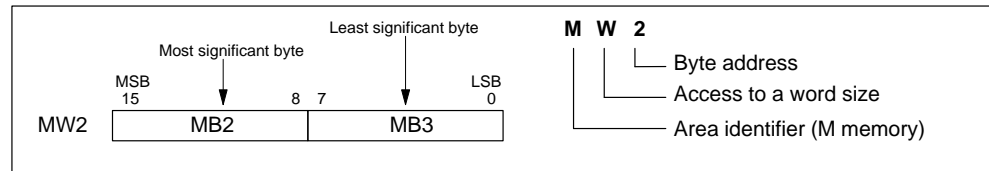

Figure 4-12 Accessing a Word of Data in the CPU Memory
You can access data in many CPU memory areas (T, C, M, and SM) as words. To access a word of data in the CPU memory, you must specify the address in a similar way to the address for a bit. This includes an area identifier, data size designation, and the starting byte address of the value, as shown in Figure 4-12. Timer (T) and counter (C) data are accessed by using an address format that includes an area identifier and a device number.